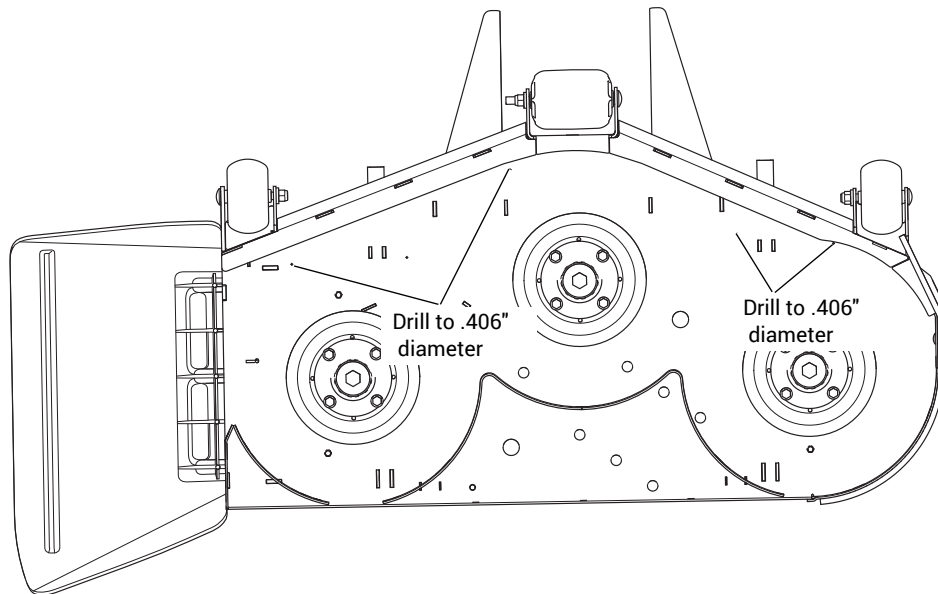
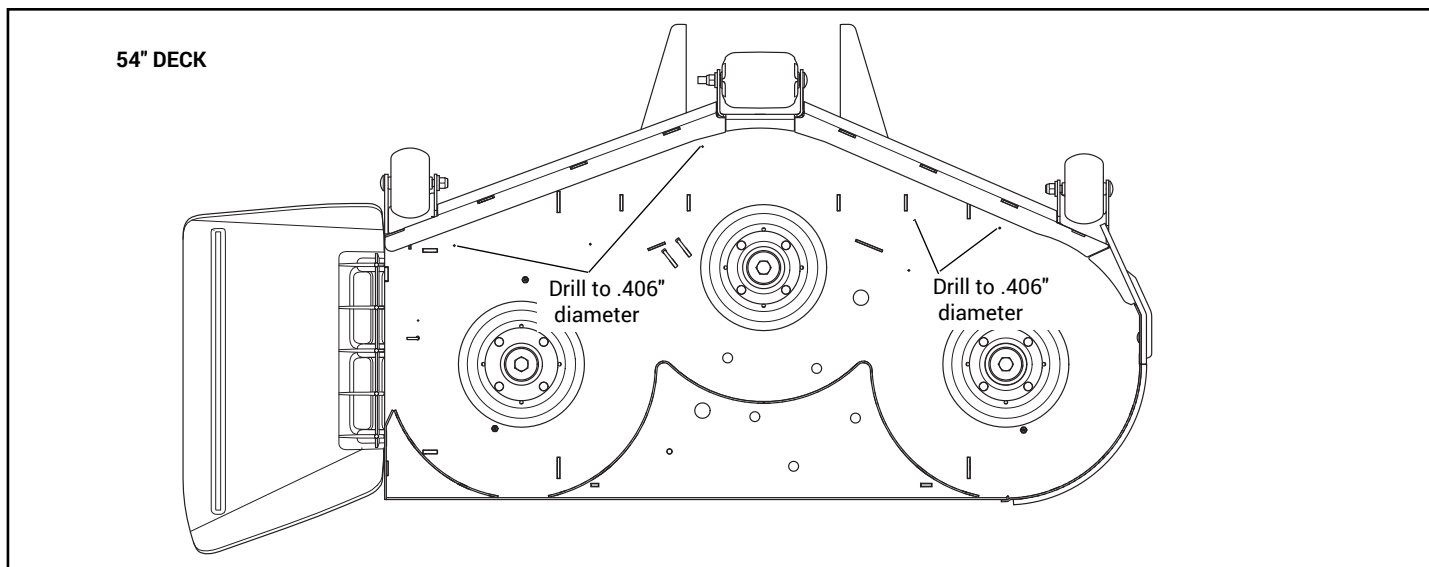

FIG. 1
FIG. 2
3. Locate the four pilot holes shown in Fig. 1, Fig. 2 & Fig. 3. Enlarge the pilot holes using a .406" diameter drill bit.